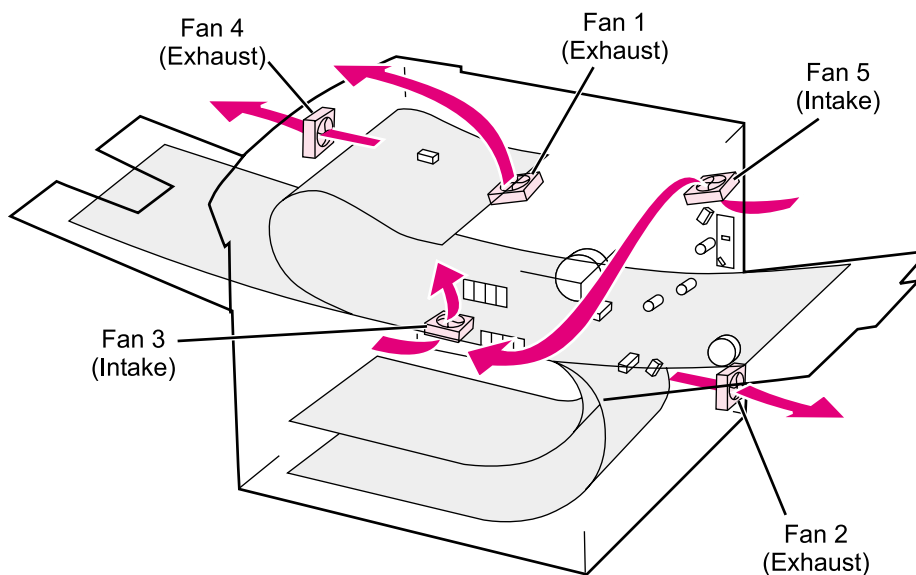

Figure 7-9 Fan Location and Airflow
3. Are the printer's fans on? (See figure 7-9 on page 584 to locate the fans.)	<p>Note: Fan operation is significant since all fans are controlled by the printer's DC Controller PCA. When the printer is in PowerSave mode, the fans are off. Make sure that the printer is not in PowerSave mode. Press . Operational fans indicate:</p> <ol style="list-style-type: none">1. AC power is present in the printer.2. DC power supply is functional (both 24V DC and 5V DC are being generated).3. DC Controller PCA's micro-processor is functional.